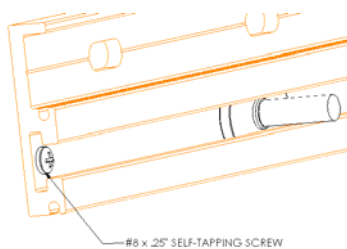
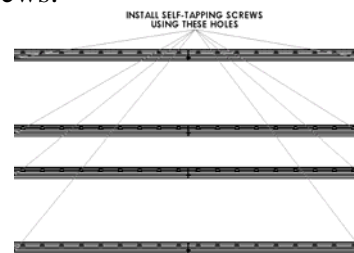

Figure 7
Figure 8
4. Install #8 x .25" self-tapping screws in outside holes of extrusions to retain T-slot assemblies in track (see Figure 7 & Figure 8). Disregard the eight extra screws.